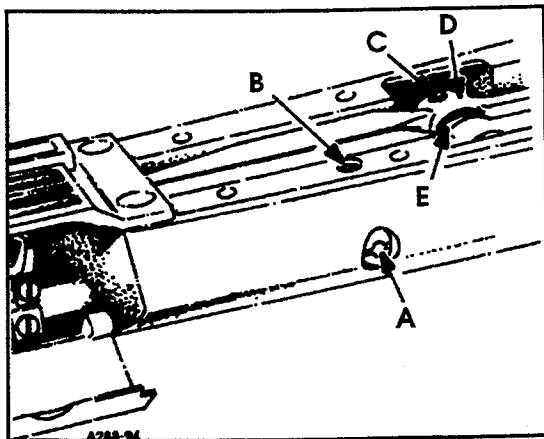
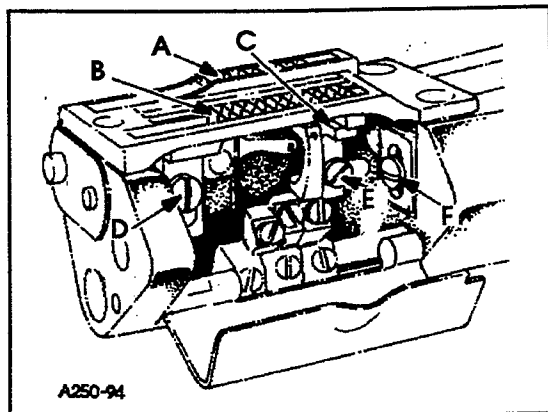

FIG. 10
FIG. 11
Before assembling the main and differential feed dogs, set the feed bar eccentric pin (A, Fig. 10) located in the left side near center of cylinder, so that the slot in the head is in a horizontal position. This assures a neutral position of eccentricity for the purpose of raising or lowering the height of the main and differential feed bars simultaneously. The feed bar pin is retained in position by set screw (B). Assemble differential feed dog (A, Fig. 11), main feed dog (B) and throat plate. Both the main and differential feed dogs can be individually adjusted to height. Main feed dog (B) at its highest position, should be set to project above the throat plate, slightly more than the depth of its teeth on Style 35800DLW and slightly more than the depth of its lower teeth on Styles 35800DWW, DWWL. If adjustment is necessary loosen screw (D) and move feed dog (B) up or down to attain correct setting. Feed dog support (C) should support front of feed dog. If adjustment is necessary loosen screw (E) in feed dog support (C) and move as required. Retighten screw (E). The differential feed dog (A) may then be leveled with main feed dog (B). If adjustment is necessary loosen screw (F) and move feed dog up or down as required. Retighten screw (F)
NOTE: Should the main feed dog require repositioning due to contact with the throat plate in its forward or rearward travel, loosen set screw (C, Fig. 10) in main feed bar driving link (D), rotate main feed bar eccentric driving stud (E) as required. Driving stud (E) has a thin hexagon head with cutouts on two of the flats allowing movement by tapping with a sharp pointed tool, when wrench 21388AZ is not available. Whenever the main feed bar eccentric driving stud position has been changed, recheck rear needle guard setting, adjustment may be required. Retighten set screw (C). Position main feed dog support (C, Fig. 11) flush against bottom of main feed dog (B), tighten support screw (D) securely.